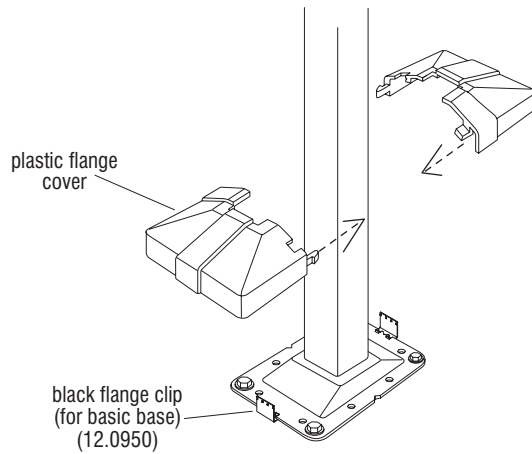

Figure 2 - Basic Base
5. Jury Base flange covers are prepared at the factory to fit correctly around the rectangular base. Snap the flange covers together around the base and push down to the floor and engage the flange clips (Figure 2).